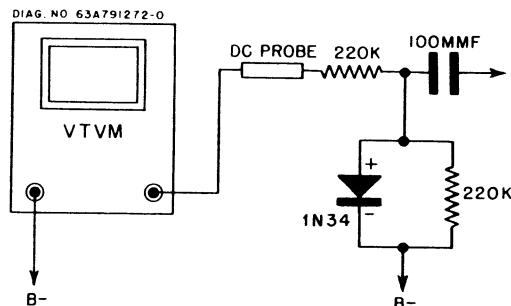

FIGURE 5. ELECTRONIC VOLTMETER CONNECTIONS
2. Connect the voltmeter and germanium crystal rectifier, as shown in Figure 5, between the cathode of the picture tube (yellow lead) and chassis. Use the lowest voltage scale on the meter.